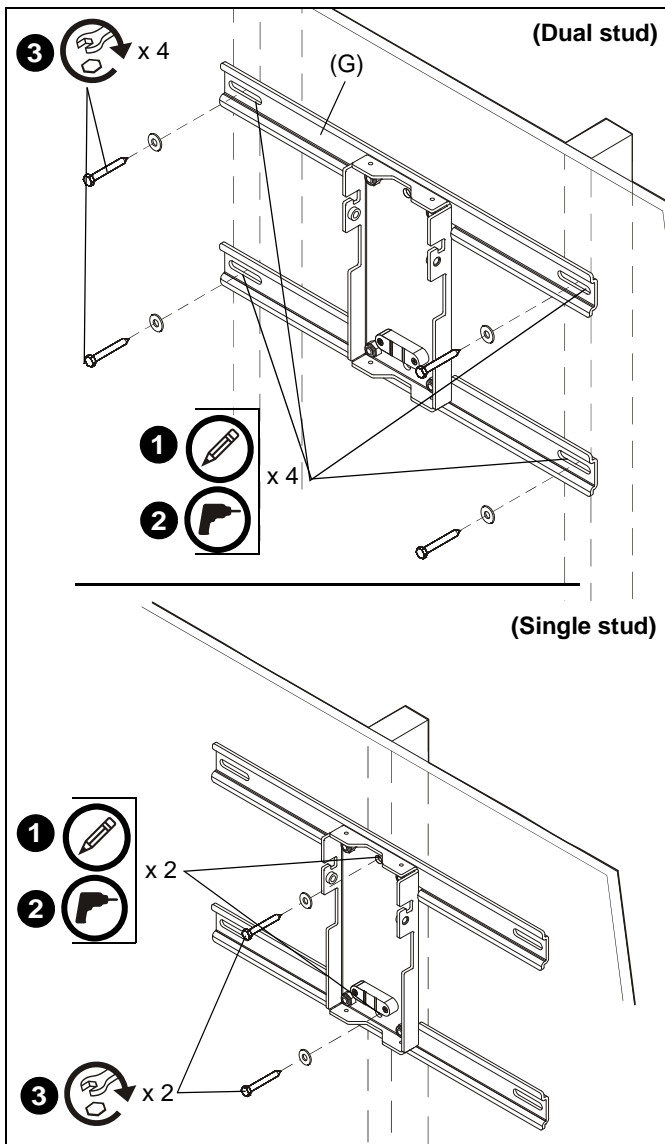

Figure 3
1. Using a stud finder and wall plate/bracket assembly, mark four preliminary mounting holes (dual stud) over center of wood studs, or two mounting holes (single stud) in wall plate. (See Figure 3)
2. Drill one 7/32" hole at marked location in wall. (See Figure 3)
3. Install one Grade 2 or better 5/16 x 2-1/2" hex head lag screw (not included) through one Grade 2 or better 5/16" washer (not included), hole in wall bracket and into drilled hole. (See Figure 3)